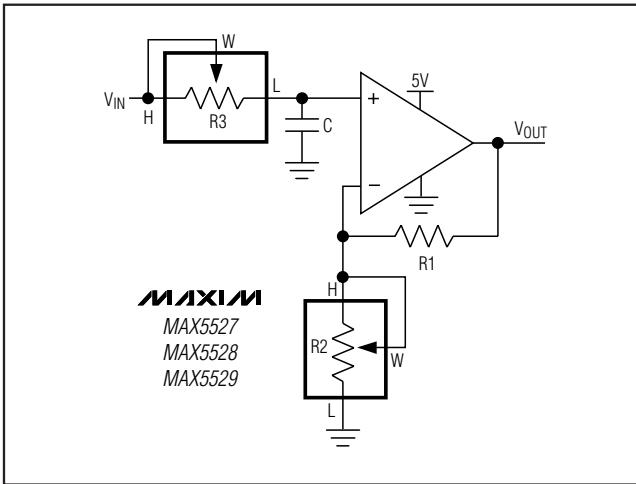

Figure 9. Programmable Filter
Figure 9 shows the configuration for a 1st-order programmable filter. The gain of the filter is adjusted by R2, and the cutoff frequency is adjusted by R3. Use the following equations to calculate the gain (G), and the -3dB cutoff frequency (fc), only up to frequencies one decade below the wiper -3dB bandwidth.